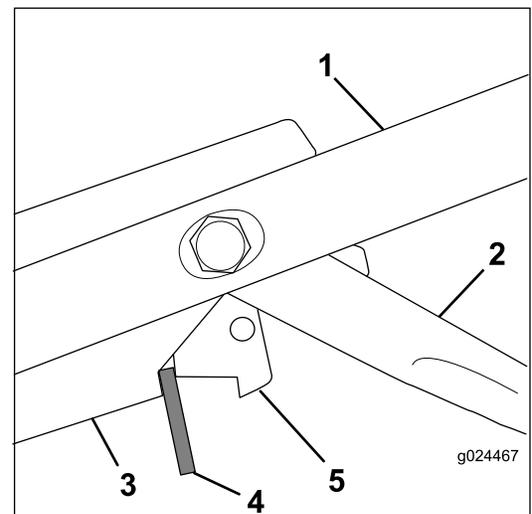

Figure 32
3. Insert a 8 mm (5/16-inch) thick spacer between the blade-brake-control lever and the control bracket on the handle (Figure 32).